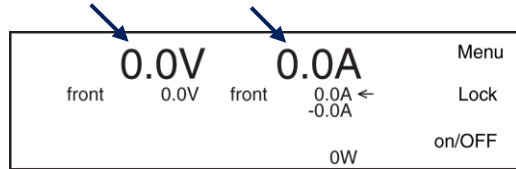

Figure 7.17: The first line in the display shows the actual output value for voltage and current.
- The first line in the front display indicates the actual values for the DC output voltage and current. See Figure 7.17.